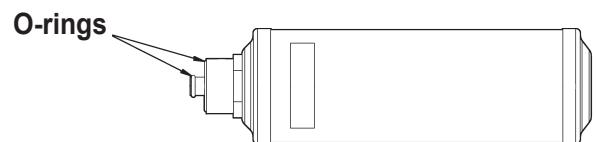

Figure 14
6. Look at the new filter—verify both o-rings are lubricated and correctly located in the grooves. See Figure 14. Thread the new filter into place. Press **START / YES**.